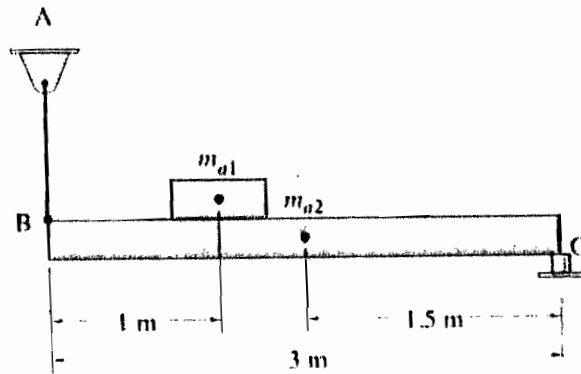

Fig. 2
2. (25%) A 3-m-long bar is supported at the left end B by a 6 mm diameter steel wire and at the right end C by a 10 mm diameter steel cylinder, as shown in Fig. 2. The bar carries a mass $m_{a1} = 200$ kg and the mass of the bar itself $m_{a2} = 50$ kg. Make a free-body diagram of the forces acting on the bar.